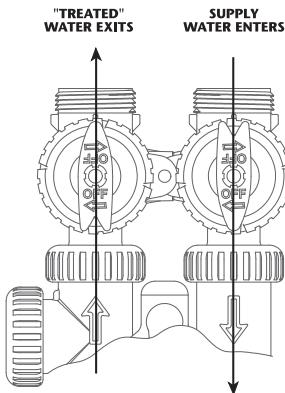

Figure 1
- NORMAL OPERATION POSITION:** The inlet and outlet handles point in the direction of flow indicated by the engraved arrows on the control valve. Water flows through the control valve for normal operation of a water softener. During the regeneration cycle this position provides regeneration water to the unit, while also providing untreated water to the distribution system (**Fig. 1**).